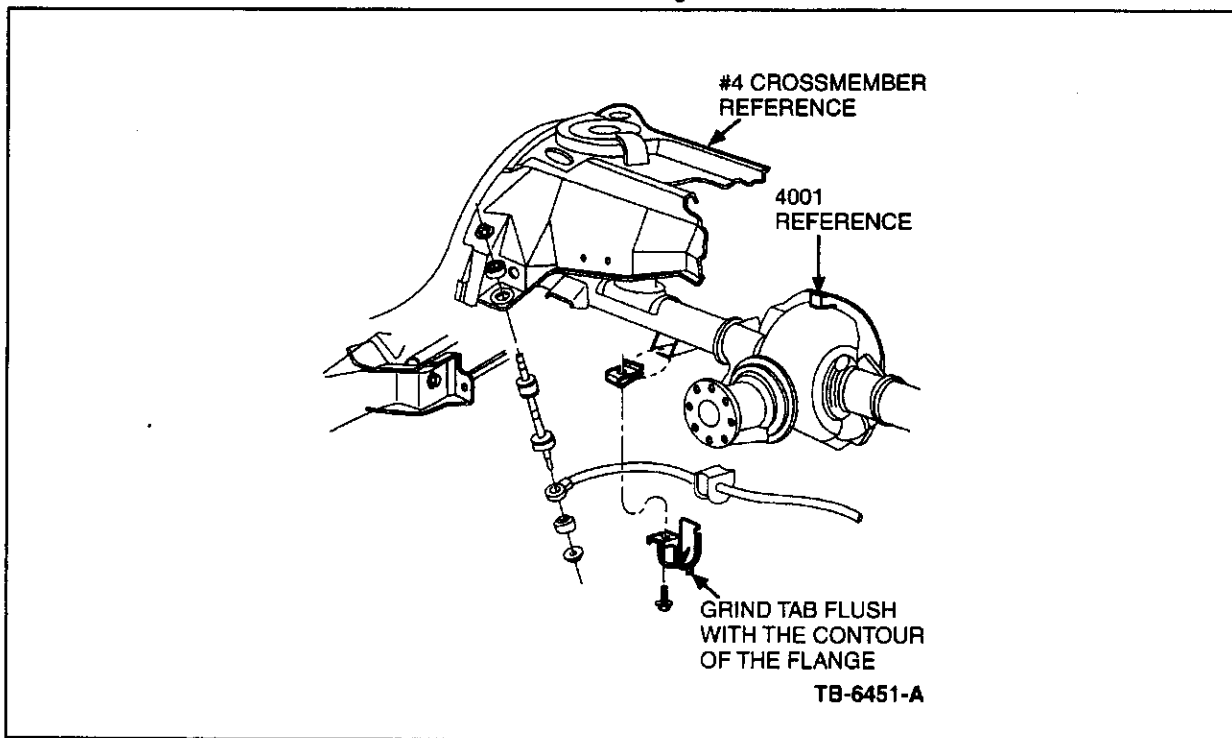

Figure 2 - Article 01-21-14
2. On 1992-2001 vehicles, use a die grinder or electric grinder with suitable carbide or grinding wheel to remove the 4 mm high by 6 mm wide tab which protrudes down from one flange of the rear stabilizer bar axle attachment "U" bracket. There is a "U" bracket at each end of the center section of the rear stabilizer bar (Figure 2).